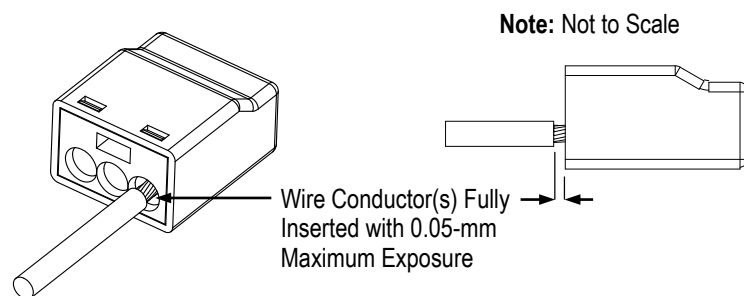

Figure 3
1. The conductor end(s) must be aligned with a wire port of the housing, then inserted until resistance to further insertion is felt. Then, force must be apply to further insert the conductor(s) into the housing and engage the spring contacts until abrupt resistance is felt. The abrupt resistance indicates that the conductor(s) are fully inserted. The conductor(s) cannot be exposed more than the dimension given in Figure 3.